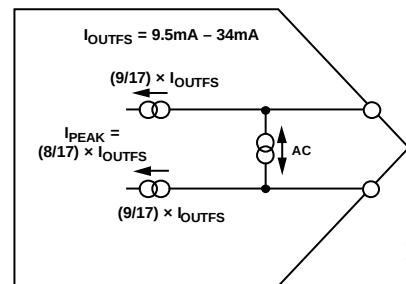

Figure 150. Equivalent DAC Output Circuit
The AD9119/AD9129 provide complementary current outputs, IOUTP and IOUTN, that sink current from an external load that is referenced to the 1.8 V VDDA supply. Figure 150 shows an equivalent output circuit for the DAC. Compared to most current output DACs of this type, the outputs of the AD9119/AD9129 exhibit a slight offset current (that is,  $I_{OUTFS}/17$ ), and the peak differential ac current is slightly below  $I_{OUTFS}/2$  (that is,  $8/17 \times I_{OUTFS}$ ).
The example shown in Figure 150 can be modeled as a pair of dc current sources that source a current of  $9/17 \times I_{OUTFS}$  to each output. A differential ac current source,  $I_{PEAK}$ , is used to model the signal (that is, a digital code) dependent nature of the DAC output. The polarity and signal dependency of this ac current source is related to the digital code (F) by the following equation: